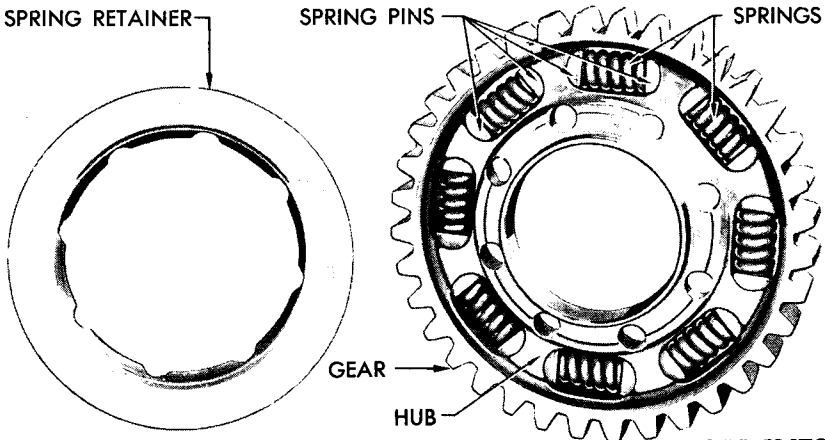

Figure 142 – Crankshaft Gear Assembly
a. **Assemble Crankshaft Gear.** Insert hub in gear, and turn gear until lugs are held in hub slots. Insert pins in end of each spring, and push spring with pins into position (fig. 142). Place retainer on gear assembly, alining cut-outs with screw holes. Place crankshaft gear assembly on bench and cover to protect it from dust until reinstalled.